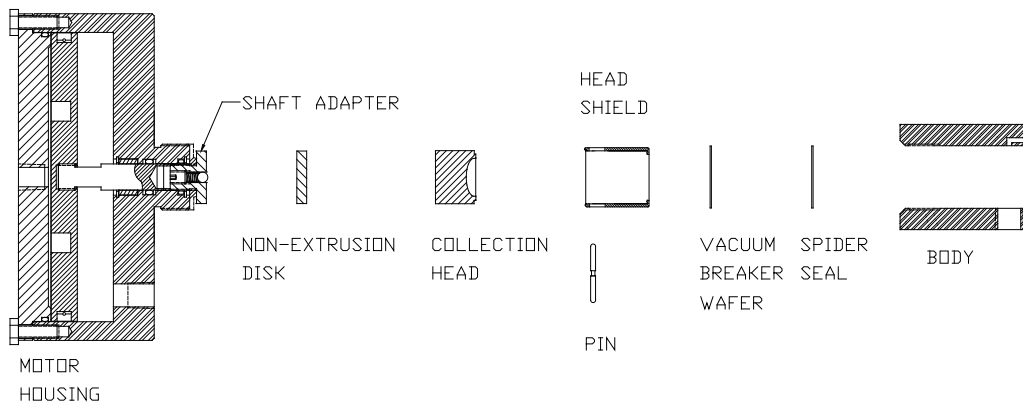

FIGURE 6
3.2.5 To replace the collection head #15, push the holding pin #13 out (it is held in place by spring tension) and slip the shield #16 off the shield/shaft adapter #35. Push the collection head out of the shield. The non-extrusion disc #14 will come out first and does not need to be replaced if it is in good condition (see Figure 6).